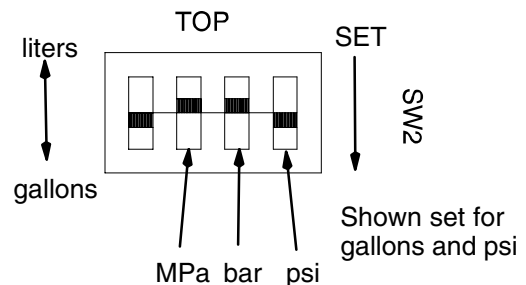

Fig. 13
- Set switches as desired, Fig. 13.